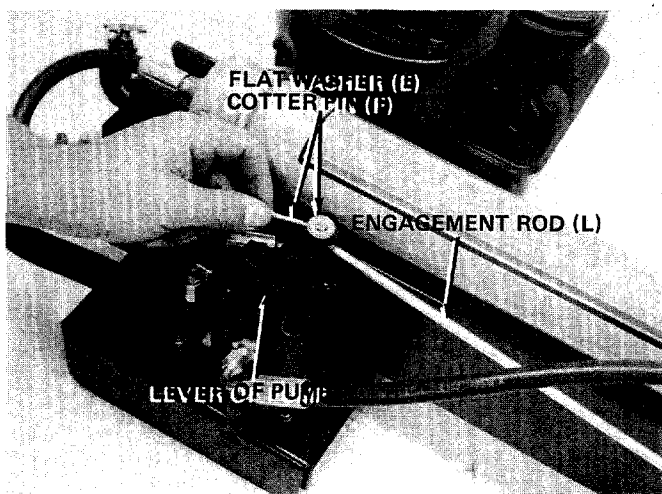

FIGURE 3.
- 1. Hook the bent end of the engagement rod (L) into the lever on top of the pump. See figure 3.
- 2. Next, place flat washer (E) over the rod. Insert the cotter pin (F) into the hole in the rod and secure by bending the ends of the cotter pin in opposite directions.